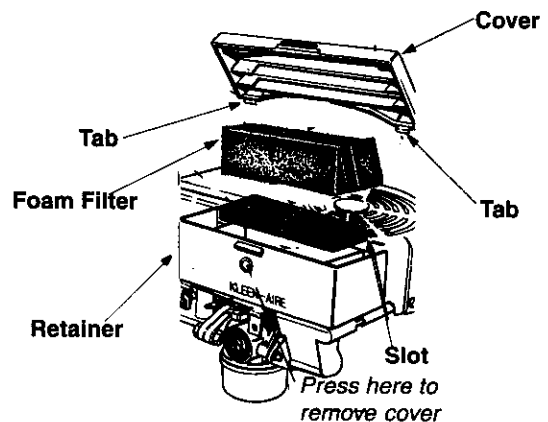

Figure 13
- Remove air filter cover by pressing in on side of tab and lifting cover upward. See Figure 13.
- Remove foam element and inspect filter for discoloration or dirt accumulation. See Figure 13.
- Reinstall foam element. See Figure 13.